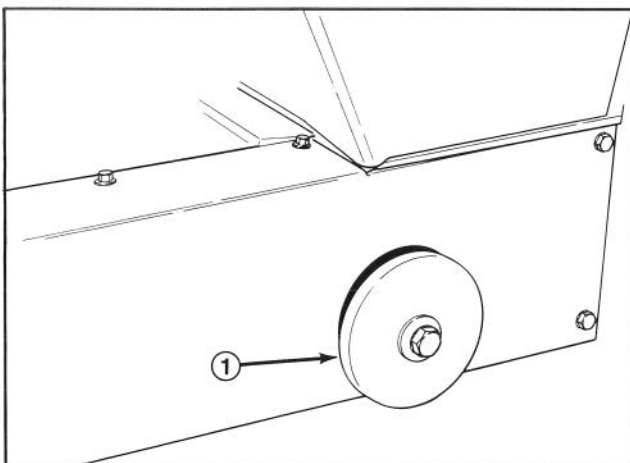

Figure 8
9. Remove capscrew, lockwasher, washer and special nut securing idler sprocket to chassis (Fig. 8).
10. Loosely install idler cover to sprocket with fasteners removed (Fig. 8).